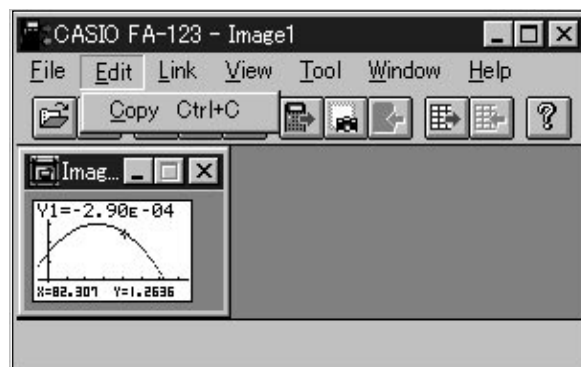

Figure 5 Copying an Image to the Clipboard
- ① Display the screen you want on the graphic calculator.
- ② Use the LINK software to execute Link-Screen Capture.
- ③ On the graphic calculator, press **F+D**.
- ④ Use File Save to save the image for later use. Or you can perform the next two steps to use it right away.
- ⑤ Use the LINK software's Edit-Copy command to copy the image to the clipboard (Figure 5).
- ⑥ In the application where you want to paste the image, specify the location where you want to paste the image and then execute the Paste command